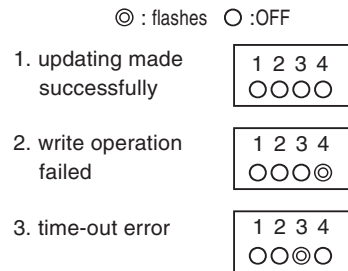

Figure 4-21
4) Press the push switch (PSW1) to store the new setting, upon which the LEDs will go OFF. If the LEDs start to flash or remain ON, enter the setting once again. (See Figure 4-21.)